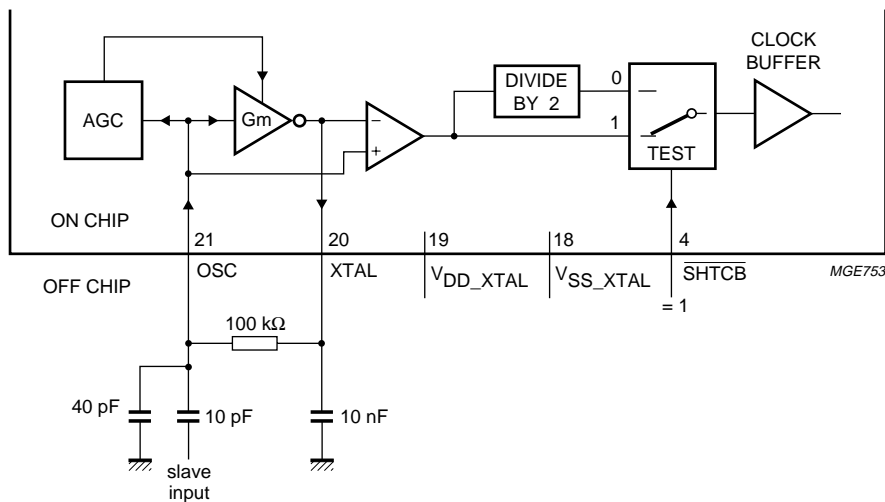

Fig.4 Block diagram slave oscillator circuit.
**The slave oscillator mode:** in this mode (see Fig.4), the oscillator circuit acts as a slave driven by a master system clock. The clock divider can be switched on or off using pin  $\overline{\text{SHTCB}}$ . When the divider is not used, the duty cycle of the clock will depend on the master system clock duty cycle and the rising and falling edge times. This places a tolerance of 5% on the 50% duty cycle of the master system clock (see Chapter "AC characteristics").